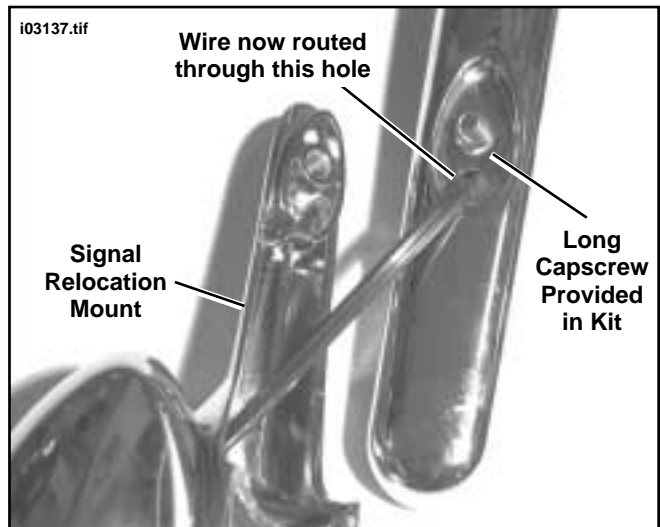

Figure 10. Route Wiring and install Signal Relocation Mount to Strut
14. See Figure 10. Route wires through left strut as shown and using long capscrew and washer provided in kit, install signal relocation mount to strut. Tighten capscrew securely.